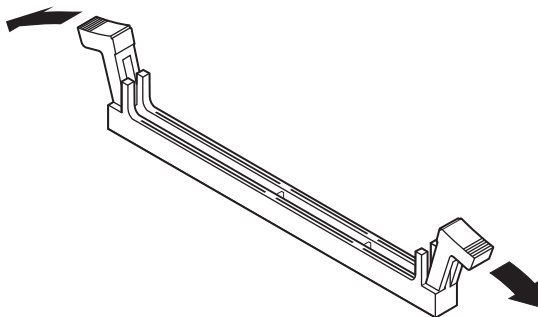

Figure 16: Opening the DIMM Socket Clamps
3. Pull open the socket clamps on each side of the DIMM socket (see Figure 16).